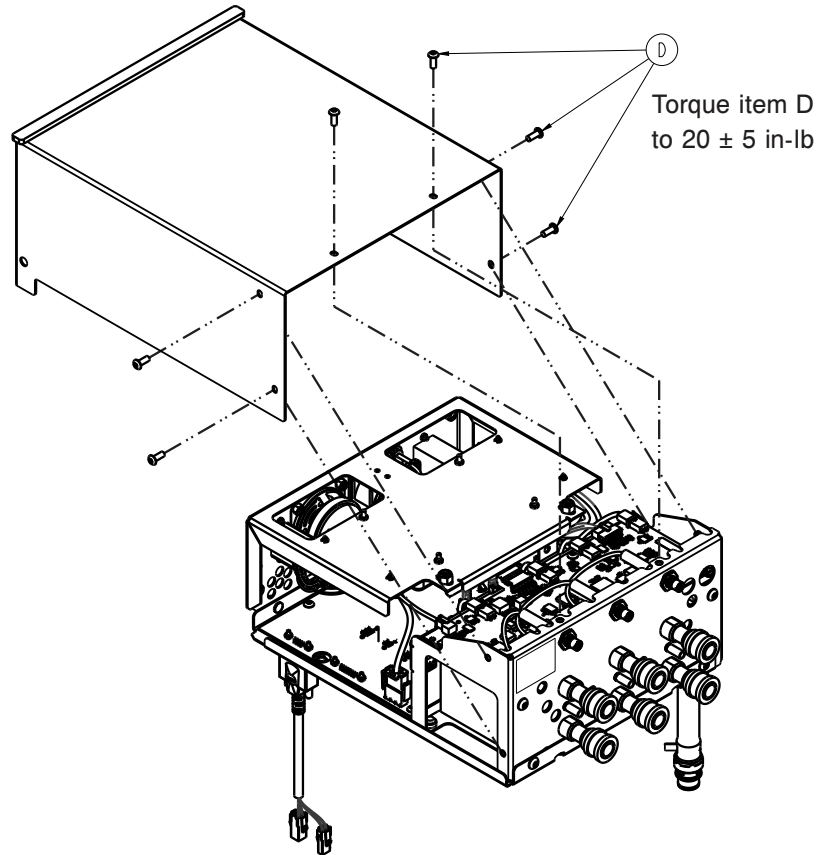

Figure 34 – Control box cover
5. Using a T25 torx, remove the 6 screws (D) that secure the control box cover (Figure 34).